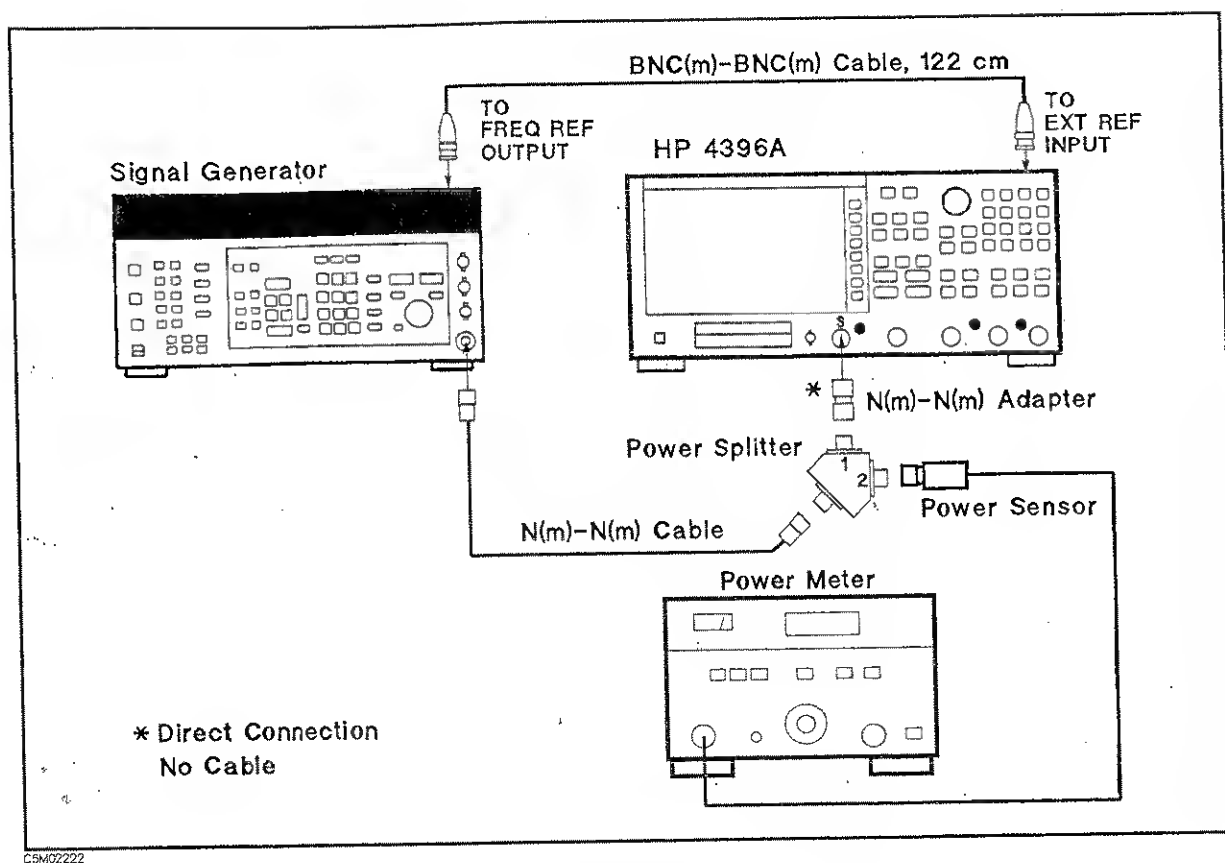

Figure 2-26. Frequency Response Test Setup 1
2. Connect the test equipment as shown in Figure 2-26.
Connect the signal generator's 10 MHz frequency reference output to the HP 4396A EXT REF Input on the rear panel as shown in Figure 2-26. With this configuration, both the signal generator and the HP 4396A are phase locked to the same reference frequency to obtain a stable measurement.